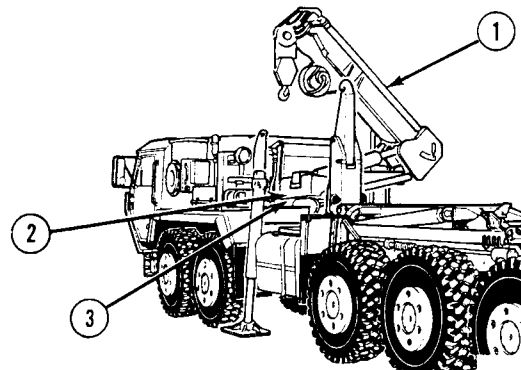

Figure 1-24. Hoist, Swing Drive and Brake
e. **Hoist.** The crane provides vertical lift of a 3,900 lb. (1769 kg) load at 22.5 ft. (6.86 m) by means of a hoist (1) (Figure 1-24) with a 5.8 cu. in. (95 cu. cm.) motor. The hoist is controllable by manual control at the fixed operators station, or at the remote control. The hoist has a spring applied, hydraulically released multi-disc pack brake, hydraulically coupled to the hoist circuit, which applies automatically when the hoist control is released.
f. **Swing Drive and Brakes.** The swing drive (2) is a planetary gear box driven by a hydraulic motor to give a swing speed on 0.8 rpm. Mechanical stops limit the rotation to 180 degrees. The swing brake (3) is a spring applied, hydraulically released multi-disc pack, hydraulically coupled to the swing circuit, applying automatically when the swing control is released.